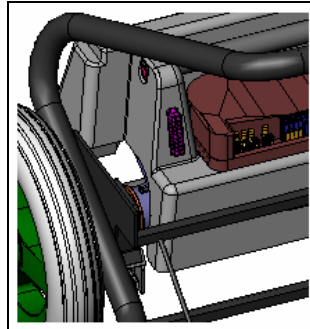

**figure 3**
- c. Lift the frame and install the frame bracket onto to power unit square connecting bracket. Make sure the frame is down to the end of the bracket. (See **figure 3**)